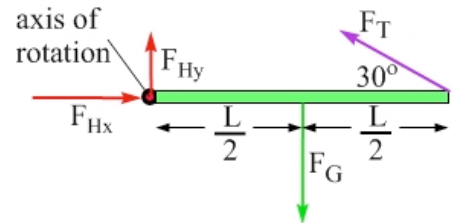

Figure 10.25: The free-body diagram of the rod.
Step 1 – Sketch a free-body diagram of the rod. The free-body diagram is in Figure 10.25. Start by drawing the force of tension applied to the rod by the string, which goes away from the rod along the string. Where should we draw the force of gravity? Until now, all we had to do was to show the direction of a force correctly on a free-body diagram. Now that we're dealing with torques, it is also critical to locate the force accurately. The force of gravity should be drawn at the **center-of-gravity** of the rod, which is at the rod's geometrical center because the rod is uniform. For now, we can assume that the center-of-mass and the center-of-gravity are the same point. We'll distinguish between the two later in the chapter.